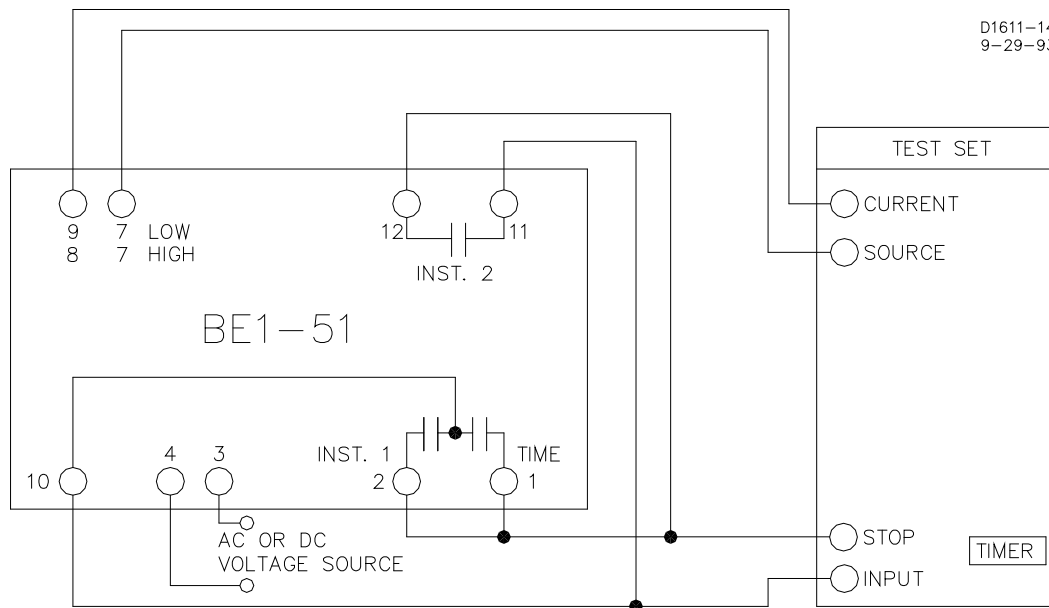

Figure 5-1. Test Setup for Sensing Input Type K (Single-Phase Sensing)
Step 1. Connect the relay test setup in accordance with Figures 5-1 through 5-4, depending upon the sensing input type for your relay (see the style chart in the *Introduction* chapter).
- (a) *Sensing Input Type K (Single-Phase Sensing)*. Refer to Figure 5-1.